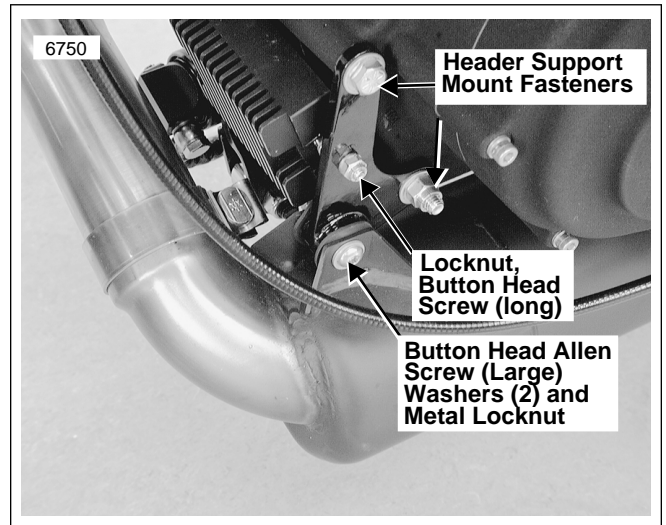

Figure 2. Original Exhaust Header Mount (1999-2000)
- a. See Figure 2. Remove large button head allen screw, two washers and metal locknut from header support mount. Discard screw. Retain washers and locknut for reuse.
- b. See Figure 2. Remove two header support mount bolts, washers, locknuts (if present) and header support mount, allowing shock mounting bracket (attached to front shock eye) to hang free. Discard header support mount. Retain washers and two bolts.